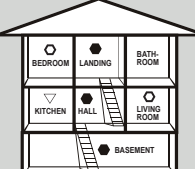

FIG.8
- If your dwelling is on a single storey, for minimum protection, you should fit an alarm in a corridor or hallway between the sleeping and living areas (*incl. Kitchens*). Place it as near to the living areas as possible and ensure the audible alarm can be heard when the bedrooms are occupied. See (**Figure 8**) for examples.
- If your dwelling is multi-storey, for minimum protection, one alarm should be fitted at the bottom of the staircase with further alarms fitted on each upstairs landing. This includes basements but excludes crawl spaces and unfinished attics. See (**Figure 8**) for examples.